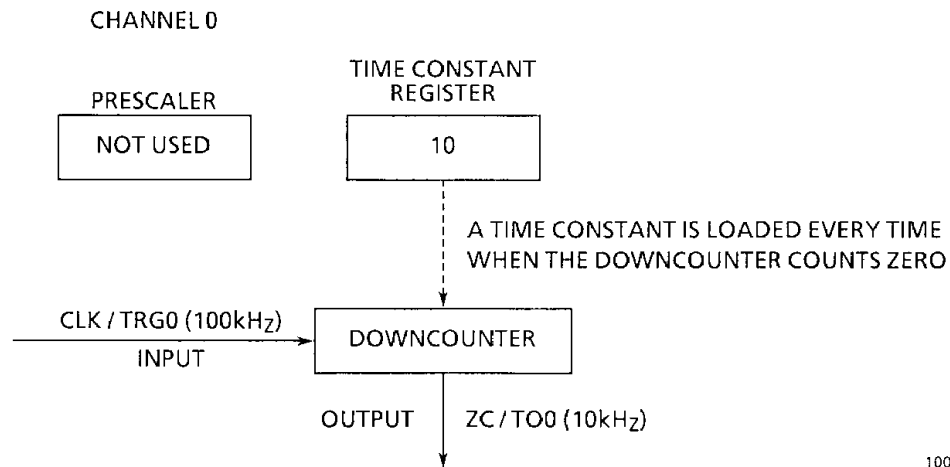

Figure 3.14 Down-Counter Block Diagram
- (b) The block diagram for converting the 100kHz system clock into the 10kHz equivalent is shown in Figure 3.14.